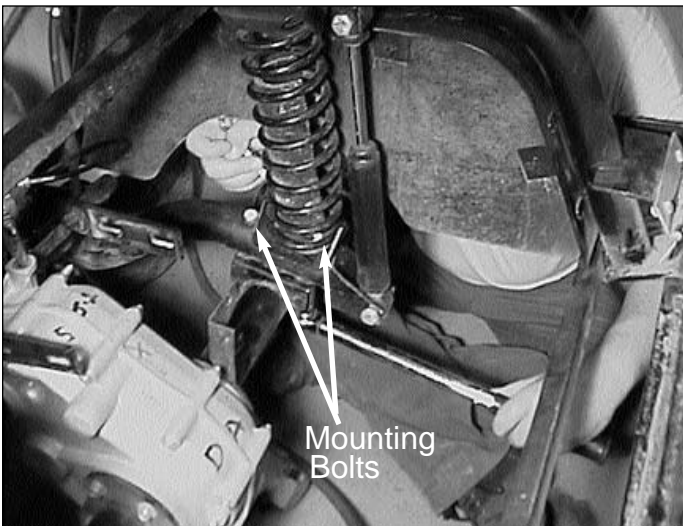

Figure 17 - Remove Transaxle Mount Bolts
12. Remove the two (2) nuts and bolts securing transaxle to each end of rear fork. See Figure 17.